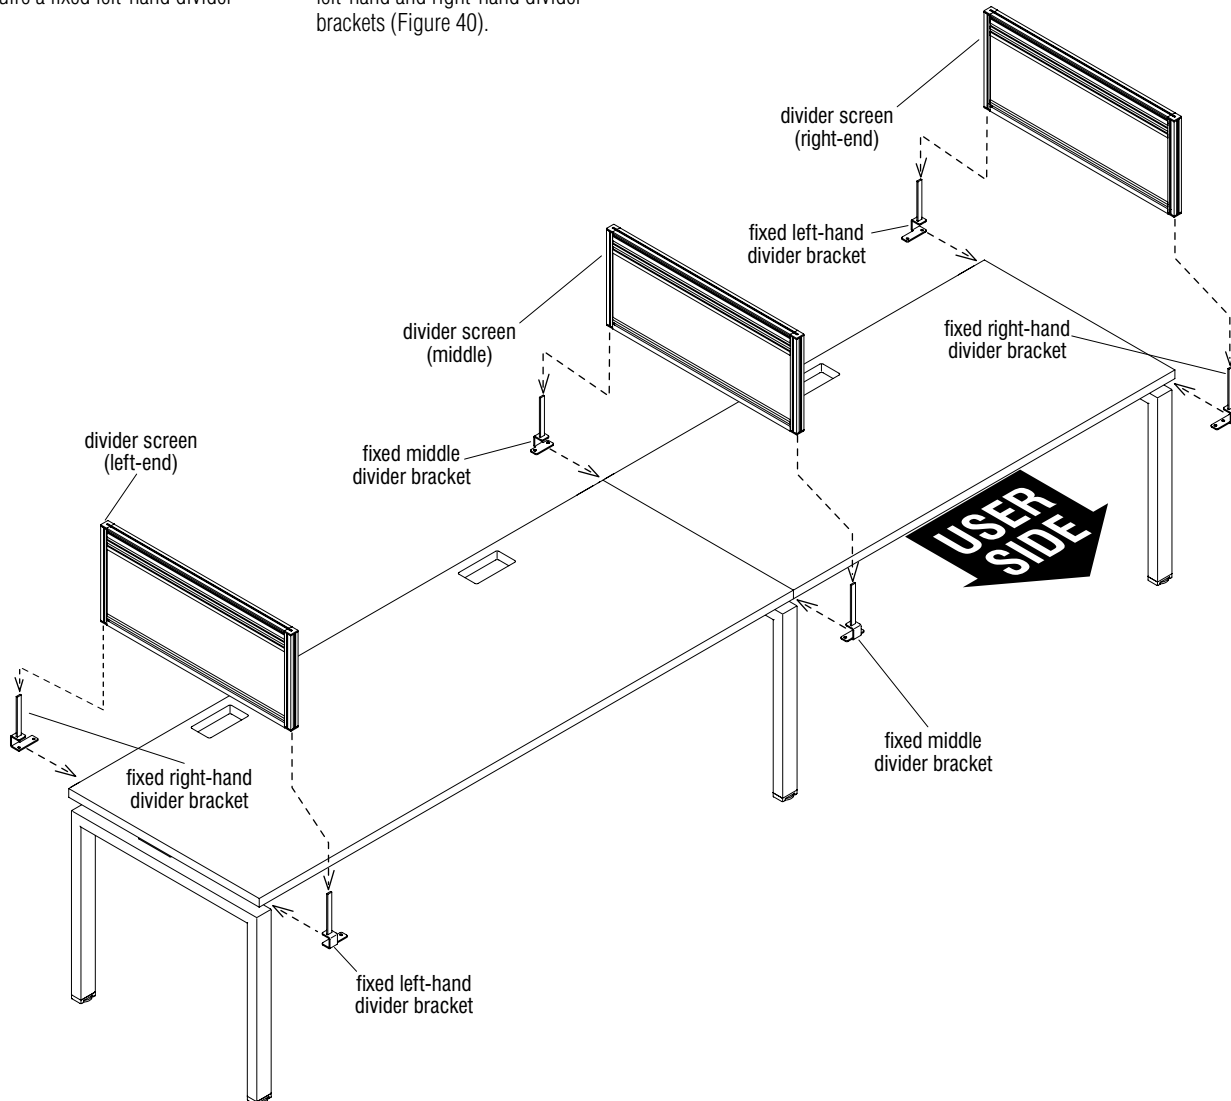

Figure 40 - Single-Sided Fixed Benching, Divider Screens without Modesty Panel Installation
1. Prepare left end divider(s) for installation. First locate and orient a "fixed left-hand divider bracket" as shown and slide it onto the front edge of the worksurface where the divider screen will install (Figure 40).
2. Next, locate and orient a fixed right-hand divider bracket and slide it onto the back edge of the worksurface as illustrated (Figure 40).
3. Position the divider screen at the end such that the front and back slides into the bayonette of the fixed left-hand and right-hand divider brackets (Figure 40).
4. Align end divider straight with the worksurface side and tighten the set screws at the underside of both fixed divider brackets. Only tighten the set screws so the tops of the set screws are flush with the bracket face. Do not over-tighten (Figure 40).
5. Repeat process following steps 1 through 4 for all middle and right-end divider screens using appropriate divider brackets as illustrated and as outlined in the note above (Figure 40).